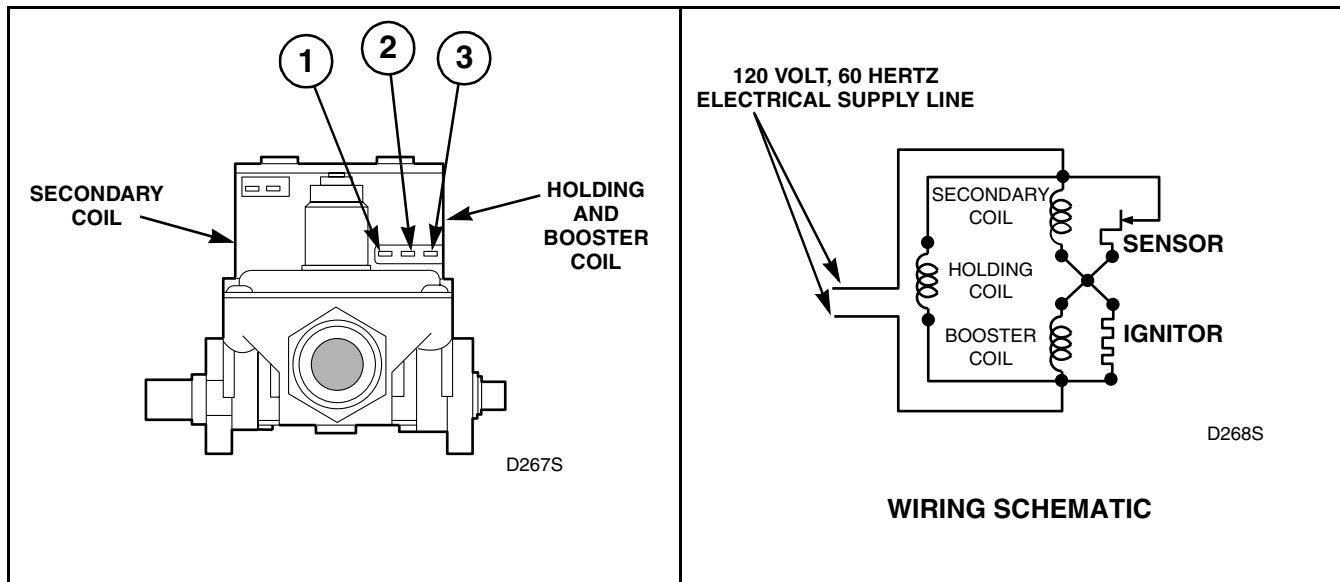

Figure 20
2. Remove wire harness disconnect block from the Holding and Booster Coil. Refer to *Figure 20*.
4. Set test meter to read AC voltage and apply meter probes into terminals on dryer harness that would correspond to terminal “1” and “2” on the coil. Refer to *Figure 20*. Meter should register line voltage in all fabric settings, except FLUFF which should read “zero” VAC.